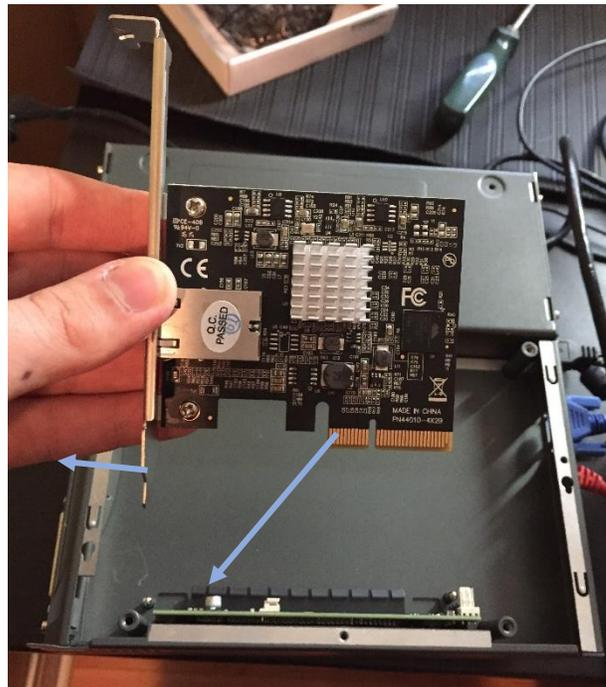

Figure 7: Connection of NIC shown.
8. Put back the cover on the CPU housing and now your CPU should look as in Figure 7.